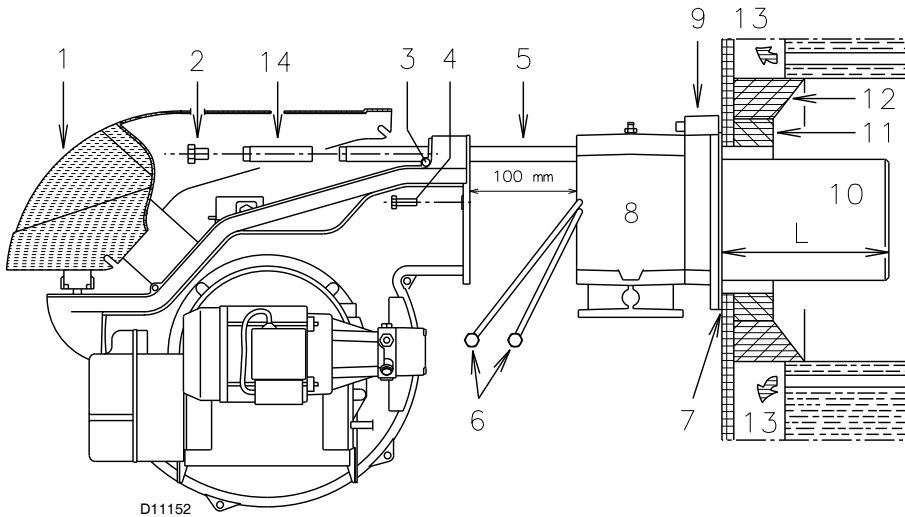
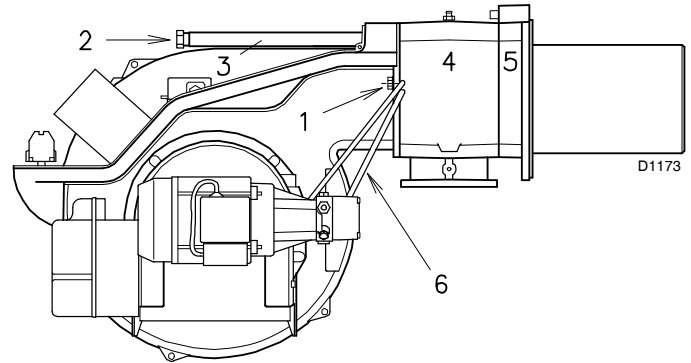

Fig. 9
Fig. 15
| Blast tube 10)(Fig. 9) | Short | Long |
For boilers with front flue passes 13)(Fig. 9) or flame inversion chambers, protective fettling in refractory material 11) must be inserted between the boiler fettling 12) and the blast tube 10).
For boilers having a water-cooled front the refractory fettling 11)-12)(Fig. 9) is not required unless it is expressly requested by the boiler manufacturer.
- disconnect the hoses by unscrewing the two connectors 6)(Fig. 9).
Once this operation has been carried out (if it was required), secure the flange 9)(Fig. 9) to the boiler plate, interposing the thermal insulating screen 7) supplied with the burner.
- Refit the burner to the slide bars 3)(Fig. 15) at approximately 100 mm from the sleeve 4) - burner positioned as shown in Fig. 9 at page 16.
- Insert the ignition electrode cables and then slide the burner up to the sleeve so that it is positioned as shown in Fig. 15.
- **Only for long blast tube burner:** unscrew the screws 2) and remove the two extension bars 14)(Fig. 9) from the slide bars 3); then refit the screw 2).
- Connect the oil pipes again by screwing on the two connectors 6)(Fig. 9 at page 16).